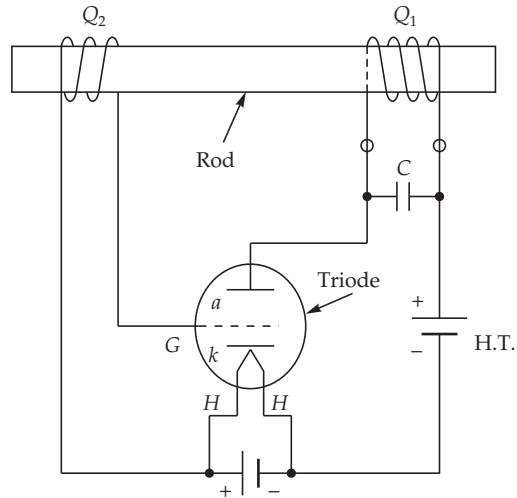

Fig. 1.22
(1) **Magnetostriction Oscillators (Fig. 1.22).** It is based on the principle that "when a rod of a magnetic material is magnetised, it undergoes a change in its length".